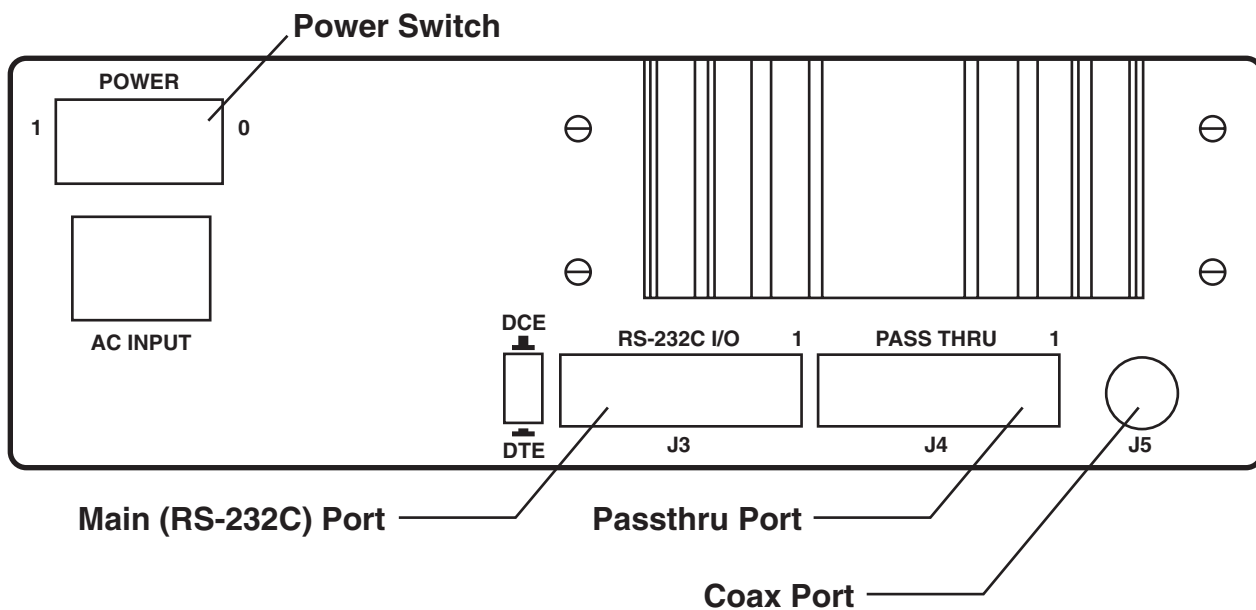

Figure 2-2. A/C-4 (B) Rear Panel.
The rear panel of the A/C-4 (B) has the following connectors and switches, which are illustrated in Figure 2-2.
- **DCE/DTE Pushbutton Switch** — This switch affects only the main port. If the A/C-4 (B) communicates with a modem or other data communications equipment (DCE) type of interface, the switch on the rear panel must be in the DTE (in) position. (The button is slightly recessed). To connect the terminal directly, the switch must be in the DCE (out) position.